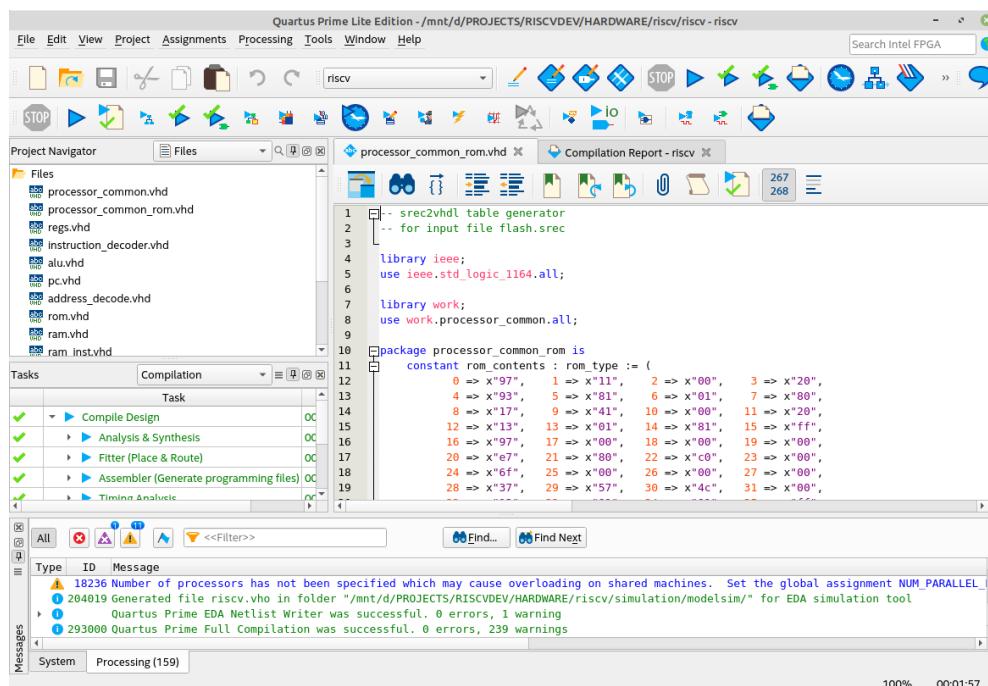

Figure 1: Image of the Quartus project (1).
- Now start the compilation of the VHDL code in Quartus Prime Lite and program the compiled file. This file has the extension .sof. See Figures 1 to 3.